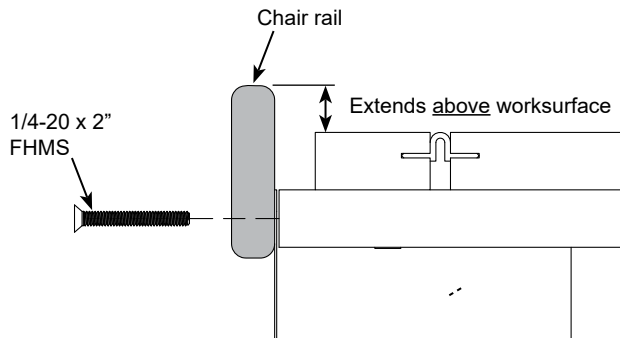

Figure 4.1
2. Attach the chair rail with (2) 1/4-20 x 2" FHM screws as shown. **Figure 4.1, 4.2.** The chair rail should extend above the worksurface, and the countersunk holes should be on the outside.